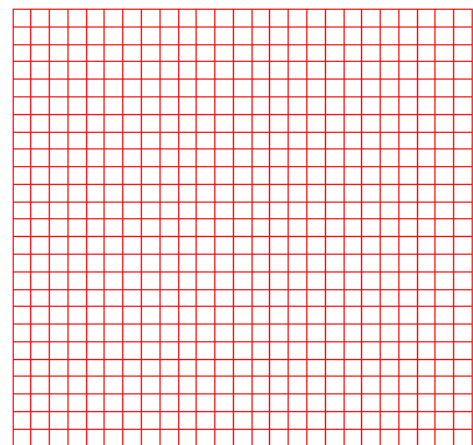

Figure Step 3
Step 3 Change the layer of all objects to layer: Model. (Figure Step 3)